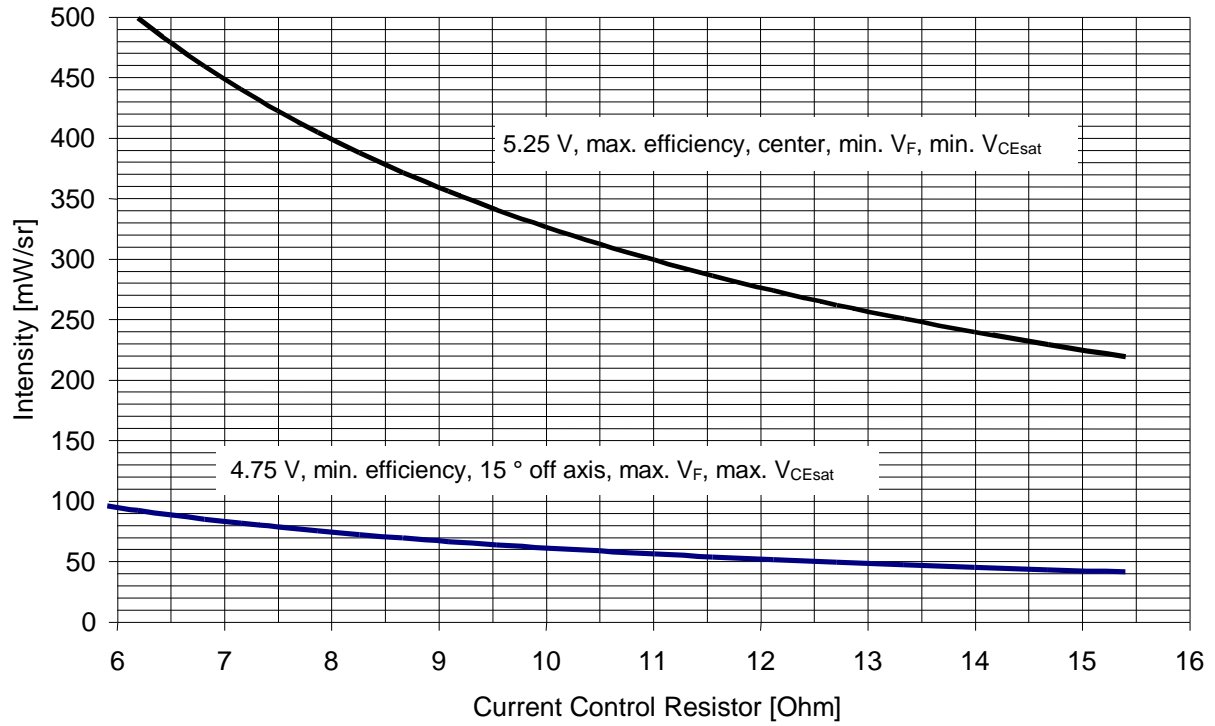

Figure 2 TFDS4x00: Intensity as a function of current control resistor. Operating voltage 5 V \pm 5%
The TFDx4x00 devices are designed to operate up to data rates of 115 kbit/s and therefore do not have to handle such high frequencies as in the case of TFDx6x00. Nevertheless, we recommend an identical layout as in TFDx6x00. The circuit is also identical apart from the different use of pin 6(5) and pin 5(7). R2 and R3 are used in parallel for controlling the current through the IR emitter. For power dissipation, two parallel resistors are used for the emitter-current control. Due to the lower minimum output intensity for SIR applications, the current control resistor combination is also changed to larger values, see figure 2 and figure 3. Nevertheless, care should be taken that the voltage at the inputs does not exceed the specified values. For increasing the output power, reduce the value. For reducing the output power, increase the value. In figure 2 and figure 3, the intensity as a function of the serial resistor is given for 5-V and 3-V applications. The devices of the 3000 (replaced by the 4x00 series) and the 4x00 series and the 6000 series do not need an external load resistor. In case of the 4000 series a 20 kOhm resistor load is built-in. The 5000 series and 6000 series devices got push pull outputs.